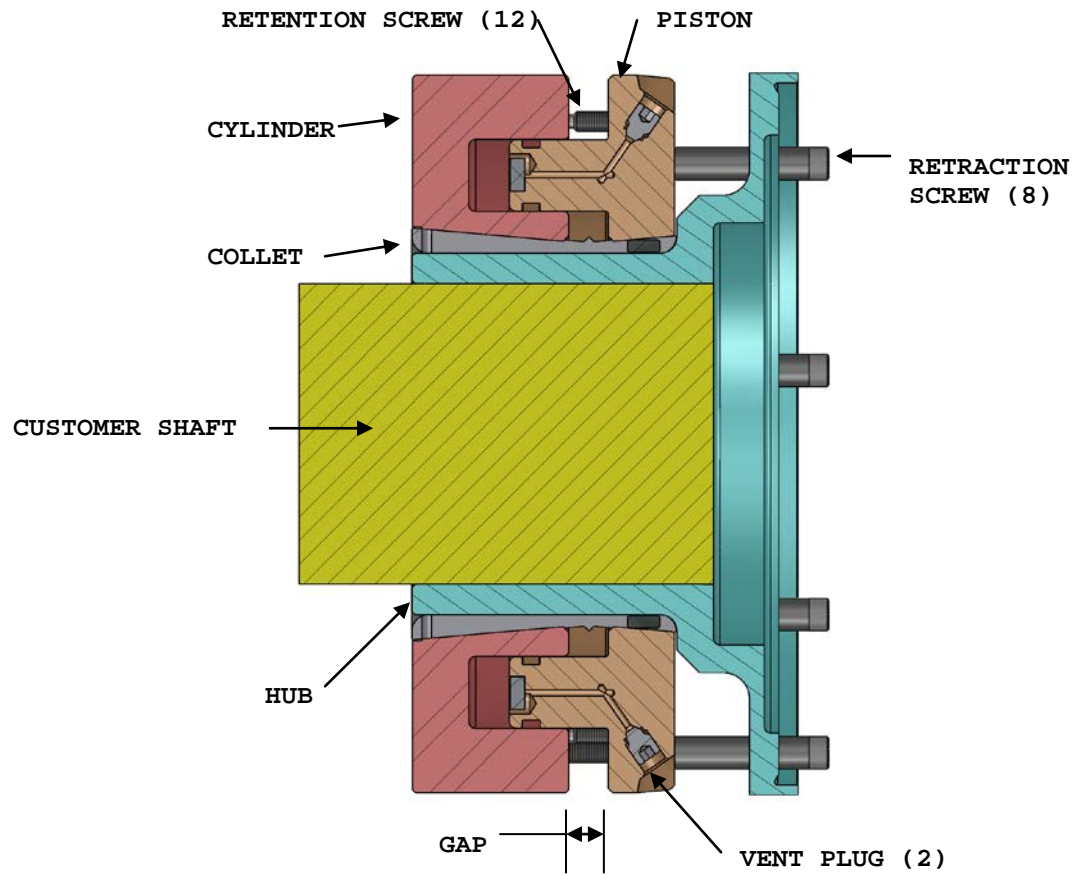
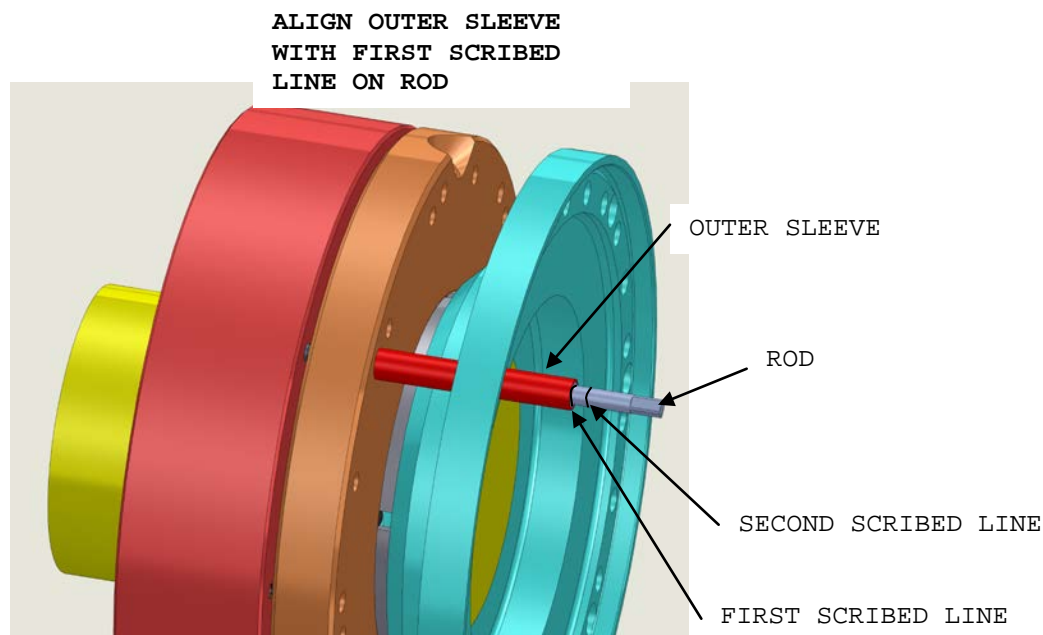

FIGURE 1a - HTC/Hub Assembly Cross Section
Figure 5a - Setting Initial Grip Position
The Hydraulic Torque Coupler (HTC) connects the hub to the shaft. It accomplishes this by squeezing the hub OD with very high pressure. This pressure forces the hub to squeeze down onto the shaft producing a tight fit. Squeeze is produced when hydraulic pressure is applied. This separates the piston and cylinder of the HTC. As these rings separate, they ride up the slopes of the collet generating interference. Figure 1a shows the hub mounted on the shaft using an HTC. Prior to assembly, the hub and shaft have been machined to produce a keyless, cylindrical slip fit.
2.3.1 Remove the vent plugs (see Figure 1a). Tighten the retraction screws to 2-5 ft-lbs. Be sure the gap is closed (see Figure 2a).
2.4.11 The proper setting of the HTC is accomplished by the separation or gap between the two halves of the clamp (see Figure 1a). Two Special Gap Tools (Riverhawk PN 7500845 for the load-end, and 7500886 for the drive-end) has been provided to facilitate this setting. Be sure you maintain the First Grip Position from the previous step until the tool is in place. Thread the gap tool into one of the retraction screw holes until the outer sleeve aligns with the first scribe line on the rod (see Figure 5a). The tool is spring loaded so you will need to push and turn in order to start the thread.
2.4.18 Place vent plugs 2002429 into both hydraulic ports after all oil is drained (see Figure 1a).